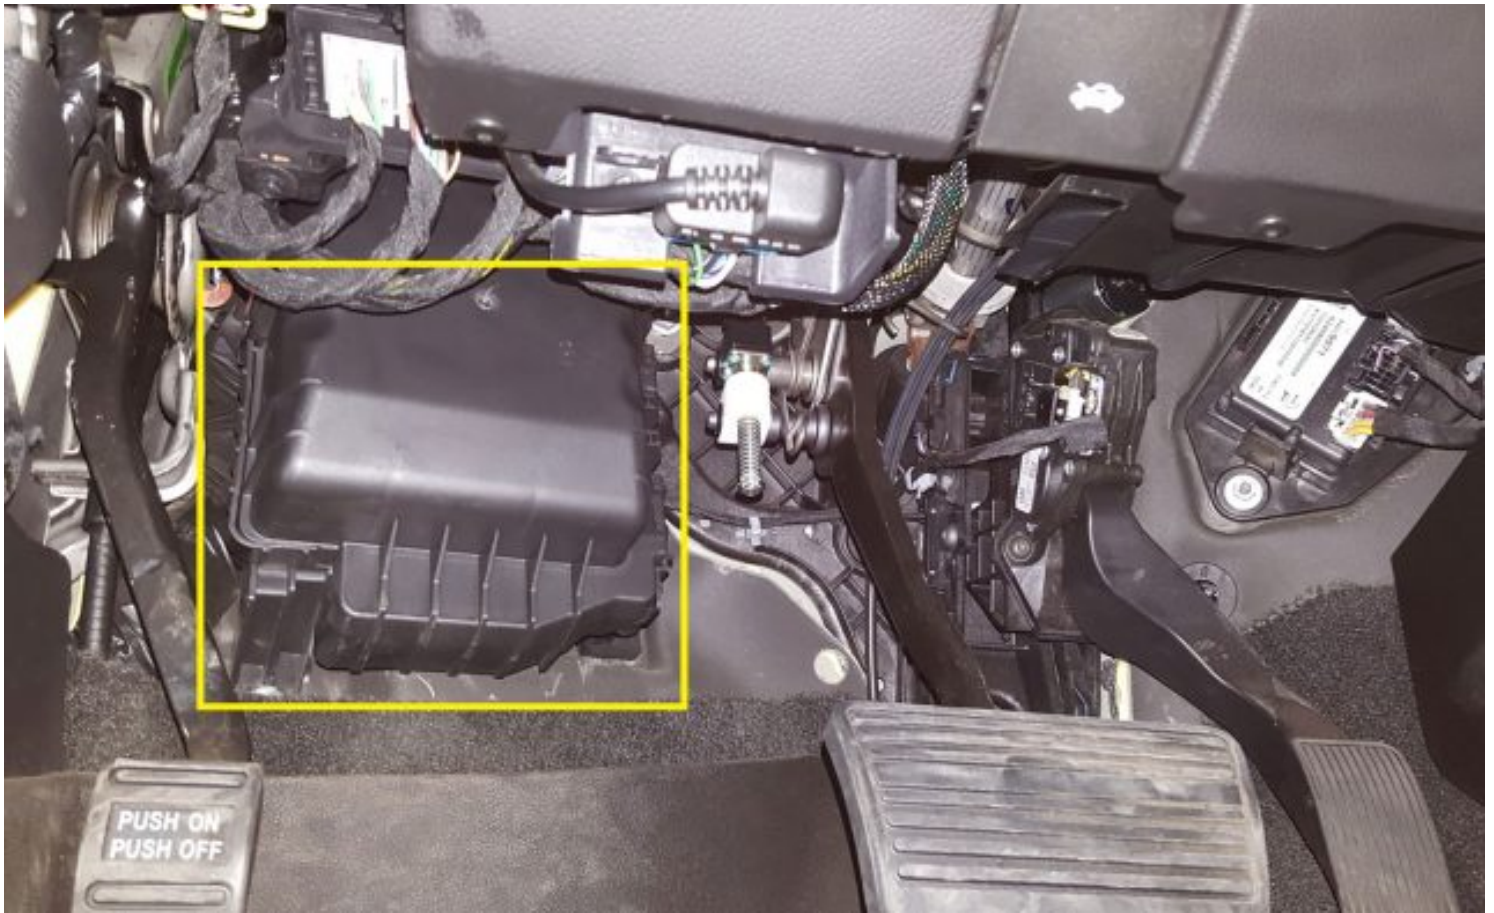

Figure 1.4-3
C. Confirm the screwdriver has penetrated into the cab by checking under the dash. See **Figure 1.4-3**.
D. Remove the plastic cover or easier access to the grommet under the dash. Unclip the sides that are indicated by the lock icon. See **Figure 1.4-3, 1.4-4**.
NOTE: Unclip the left side first. See **Figure 1.4-3**.